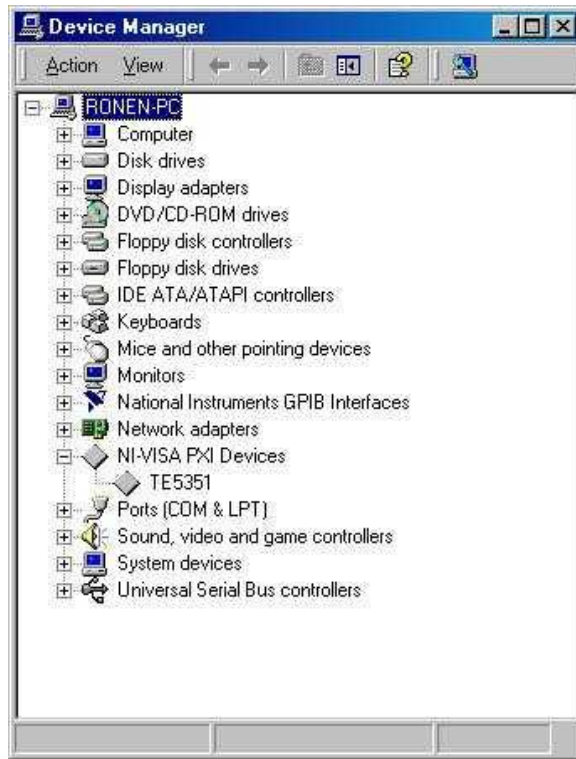

Figure 2-7 – Device Manager
5. Click on Tabor Electronics. If you installed the driver properly, your device manager should show the Arbitrary Waveform Generator Model 5300 as shown in figure 2-7.